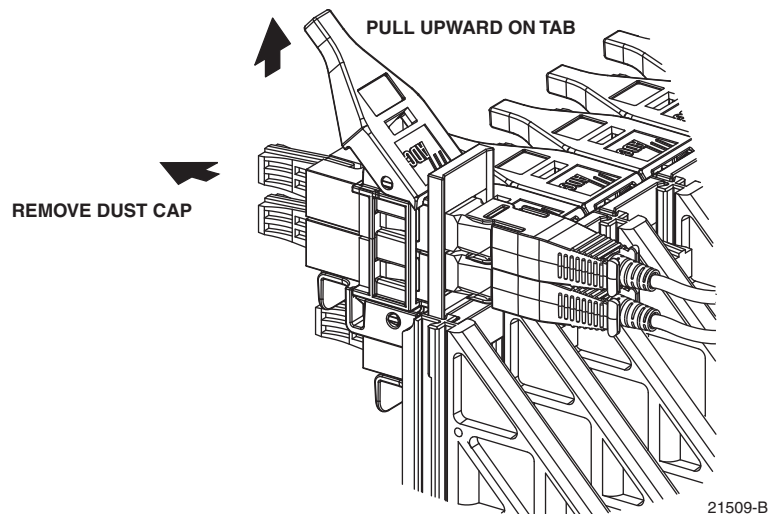

Figure 44. Typical Adapter Pack Raised to Access Position
2. Pull upward on the small tab on top of the adapter pack and lift the adapter pack to the position shown in Figure 44.